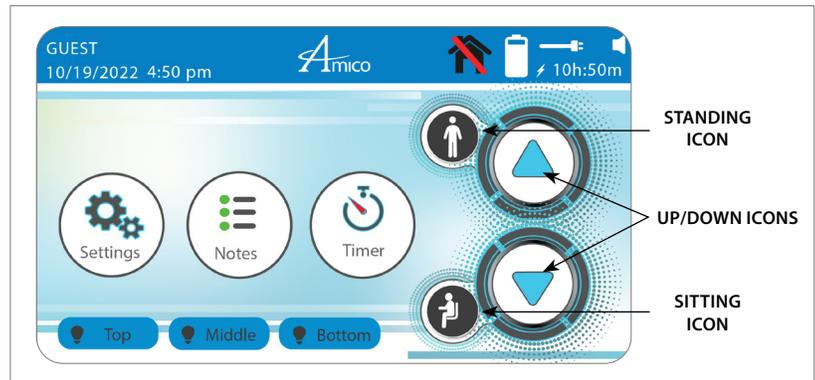

Figure 33
4. To create or edit a user profile, tap on **"SETTINGS"** from main menu (Figure 33) and then tap **"USER SETUP"** (Figure 34).